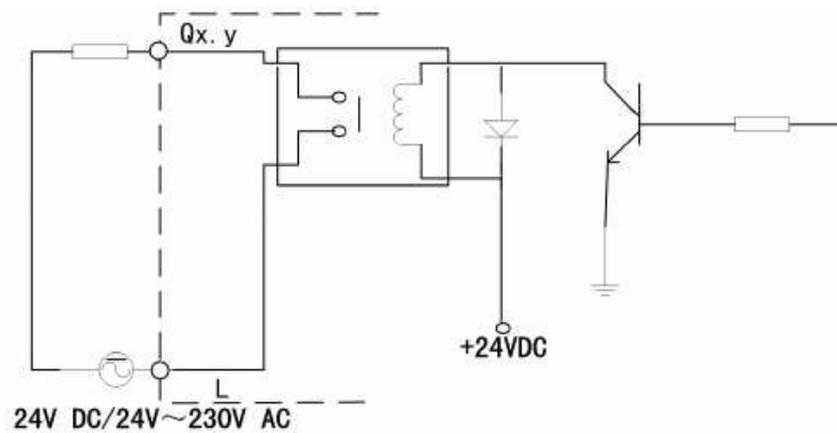

Figure 2.3.2 LM3105 Output Channel Equivalent Circuit
◇ LM3105 output channel (DO) equivalent circuit shown in Figure 2.3.2.